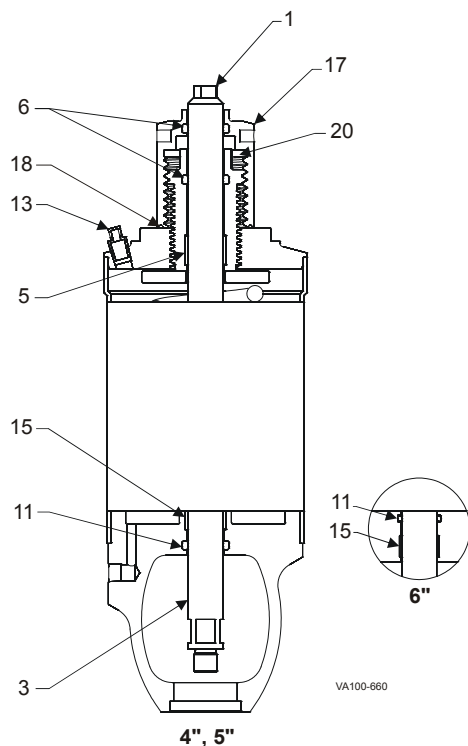

Figure 40: 4", 5" and 6" Air-to-Raise, Adjustable-Spring Actuator
4. Unscrew and remove the locknut cover (Figure 40, item 17). Unscrew and remove the adjustment screw (item 20). Check for free movement of the stem to ensure that no compression remains.
5. Inspect the o-ring (item 6) in the adjustment screw (item 20). Remove the worn o-ring seals. Coat the new o-ring seals with Dow Corning® #7 Silicone Lubricant or equivalent, and replace them.
6. Remove the PTFE guide bearing (item 5) in the adjustment screw by placing a screwdriver behind the bearing to pry it away from the wall of the yoke (item 12). Use needle-nose pliers to grip and remove the bearing.
7. Using wrenches on the upper and lower wrench flats, unscrew and remove the lower stem (item 3). **Do not remove the upper stem (item 1), as it locates an internal support washer.**
8. Remove and inspect the yoke area stem o-ring (item 11). Remove the worn o-ring seal. Coat the new o-ring seals with Dow Corning® #7 Silicone Lubricant or equivalent, and replace them.
9. Inspect and replace the PTFE guide bearing (item 15) in the yoke as needed.
11. Once secure, screw in the adjustment screw (item 20) until it is held by threads (not in its final position). Refer to Adjustable-Spring Actuators: Pressure Setting (Table 1 on page 15) for setting it to the desired loading pressure.